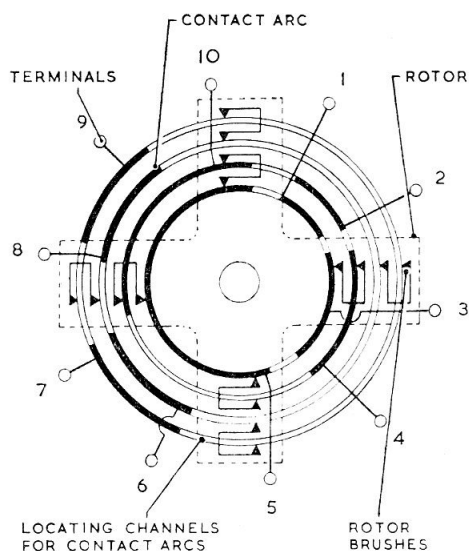
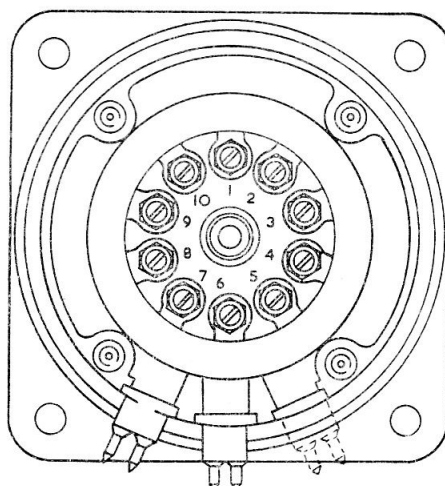

Fig. 3. Typical circuit diagram
Fig. 4. Terminal arrangement
5. A typical circuit diagram is shown in fig. 3 and switch details of the various Marks are given in Appendix 1 to this Chapter. The terminal arrangement is illustrated in fig. 4.